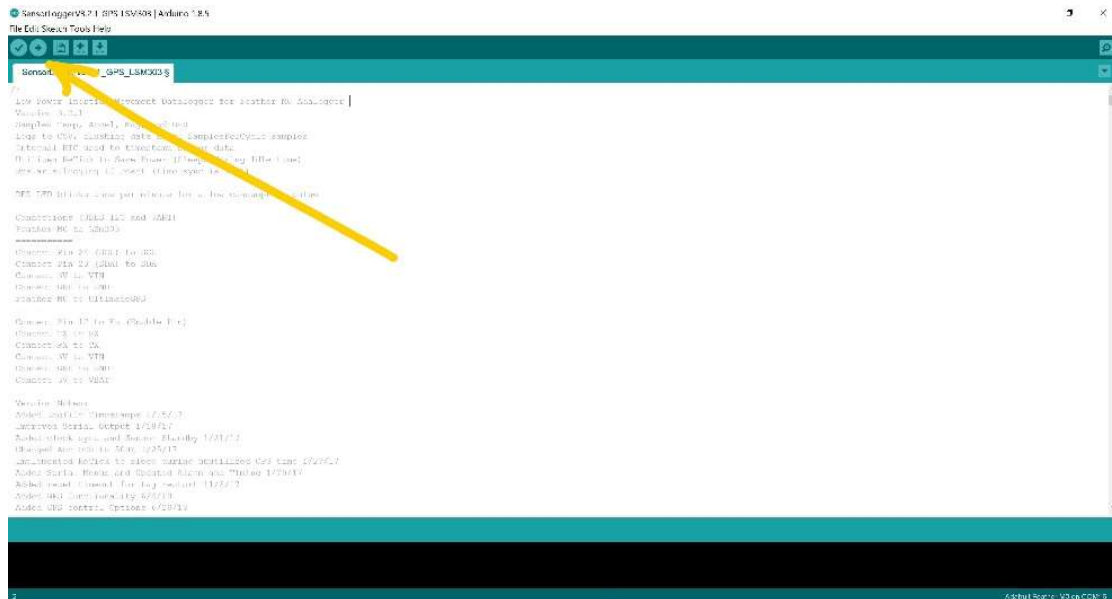

Fig. B3 Upload Blink.
- iii. Open Blink and click upload (on the toolbar below menu options, click the right-hand arrow that is 2nd icon from left) (Fig. B3)